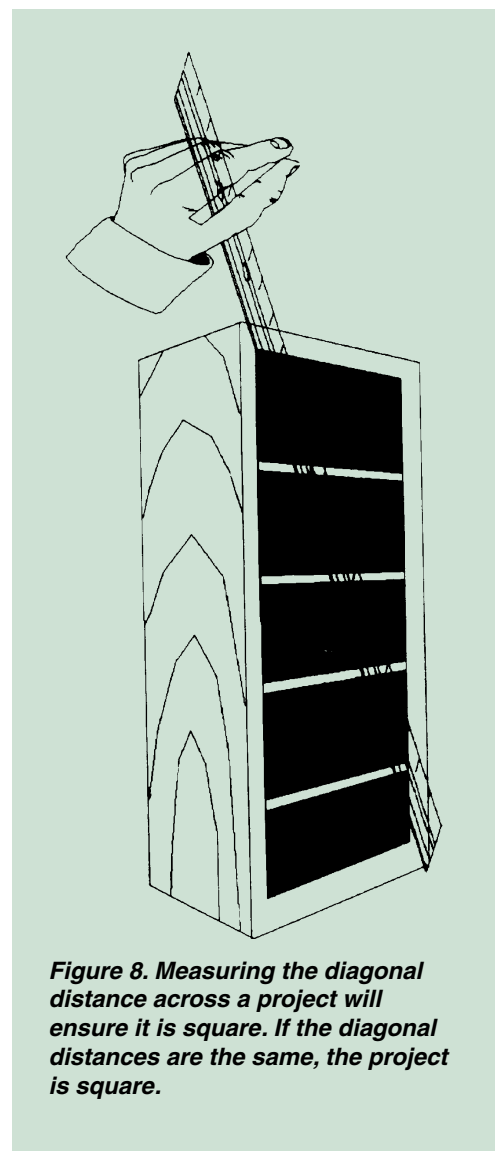

Figure 8. Measuring the diagonal distance across a project will ensure it is square. If the diagonal distances are the same, the project is square.
6. Make these three checks after the assembly is clamped. (a) Make sure the parts are square to each other (90°, typically, or whatever angle is specified in the pieces' design). (b) With a straightedge, make sure all of the pieces are in one plane and not warped. (c) Place a stick across the corners to make sure the diagonal distance is the same for both diagonals (See Figure 8).